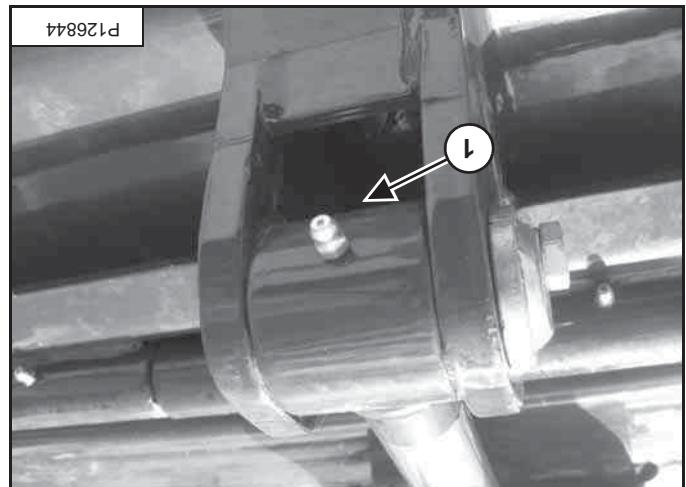

Figure 115
Grease fitting (item 1) [Figure 115] for the cylinder. Add one pump of grease for every 40 hours of operation.